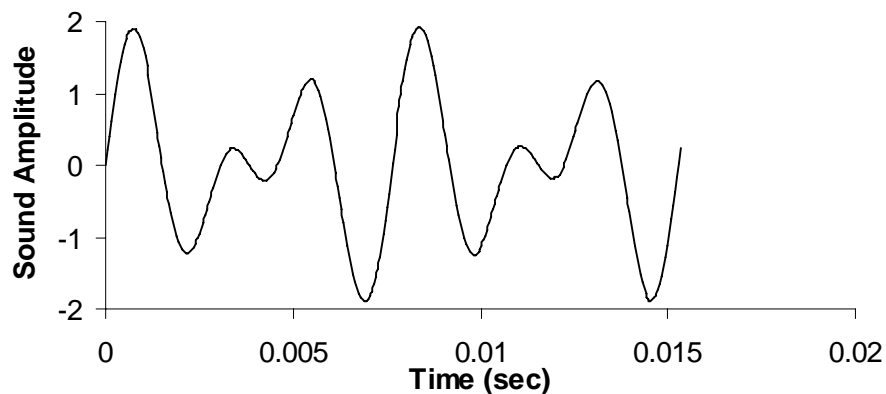

Figure 5.8. A simple chord mixing the notes C and G.
A chord is created by playing multiple notes simultaneously. When two piano keys are struck simultaneously both notes are created, and the sounds are mixed arithmetically. You can create the same effect by adding two waves together in software, before sending the wave to the DAC. You can produce this effect by using two interrupts and adding two waves together in software. Figure 5.8 plots the mathematical addition of a 262 Hz (low C) and a 392 Hz sine wave (G), creating a simple chord.